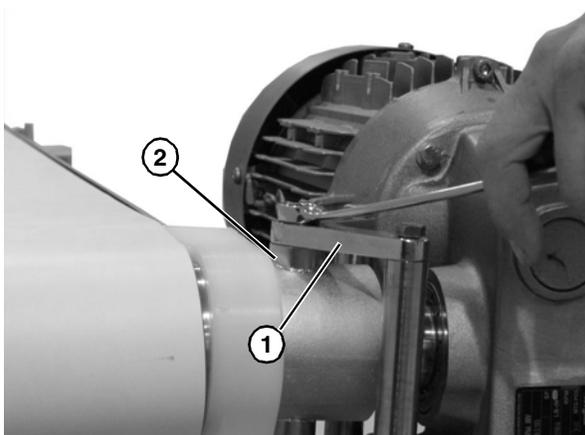

Figure 15
3. Attach the top gearhead mounting bar (Figure 15, item 1) to the motor mounting bracket (Figure 15, item 2).